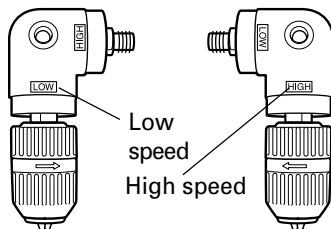

Fig. 13
- To operate the angle unit at low speed, attach the keyless chuck to the angle unit spindle at the side marked "LOW" and secure the locking screw. At this setting, the drilling speed is decreased to about 70% and the drilling torque is increased to about 150%. (Fig. 13)
- To operate the angle unit at high speed, attach the keyless chuck to the angle unit spindle at the side marked "HIGH" and secure the locking screw. At this setting, the drilling speed is increased to about 150% and the drilling torque is decreased to about 70%. (Fig. 13)